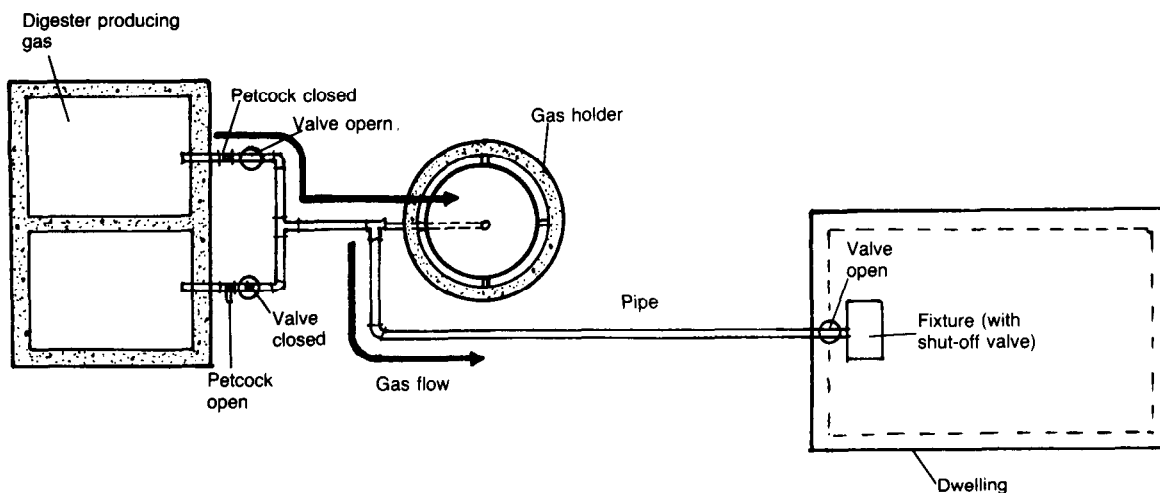

Figure 3. Biogas System in Operation
2. Open the valve in the dwelling and allow gas to reach the user's fixtures. Each fixture must have its own shut-off valve which must be kept closed until ready for use. See Figure 3.